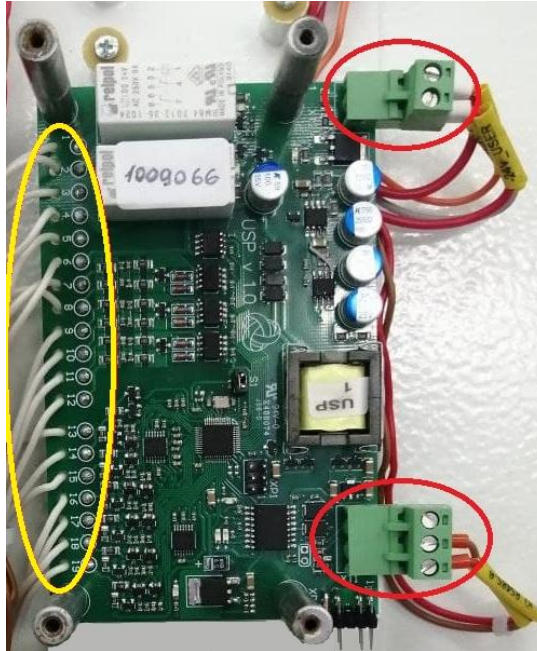

Figure 19 – Unplug connectors and cut wire of extension unit.
2. Unplug connectors (red) as shown at figure 19 and cut wires(yellow) from extension unit to the terminal block.
**Only for extension unit same as at figure 19**